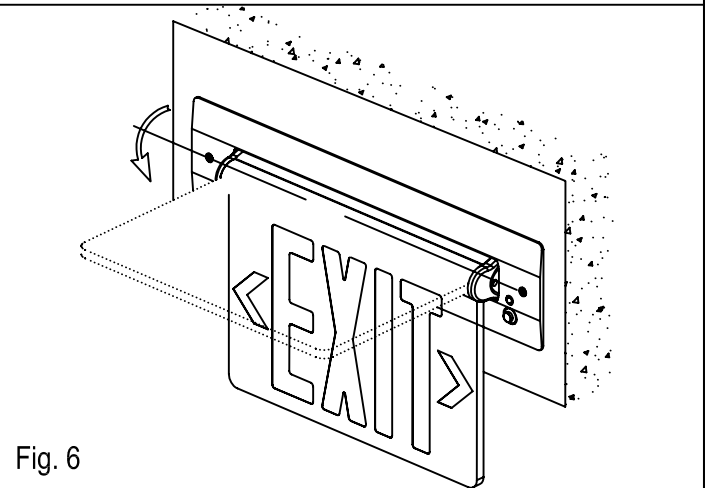

Fig. 6
7. Rotate the panel 90° for wall mounting (See Fig. 6 on Page 2)